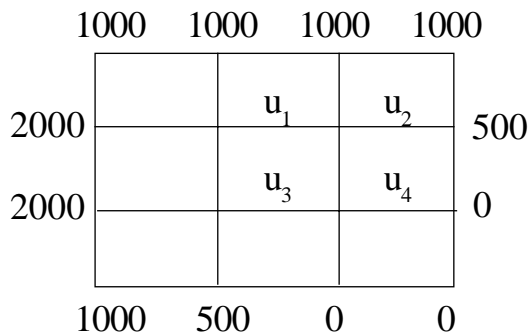

Fig 11.a
11. a) Given the values of u (x, y) on the boundary of the square in Fig.11.a, evaluate